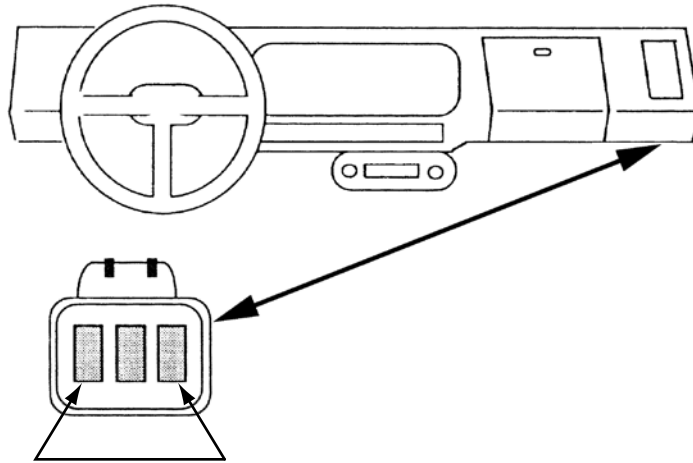
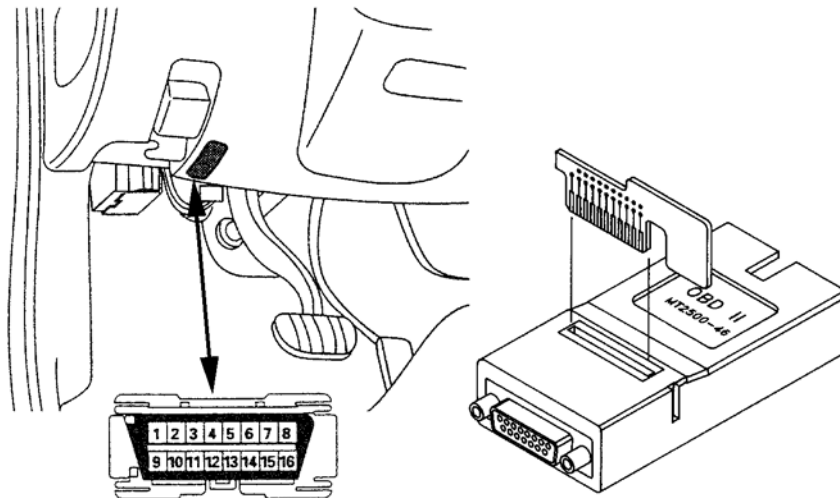
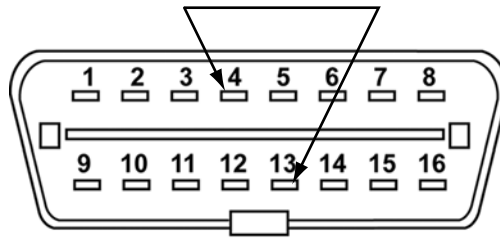

Figure 10-32 Isuzu vehicles with orange SRS diagnostic connector and jumper pins
Figure 10-33 1996 and newer Isuzu vehicles with 16-pin OBDII style connector location
Figure 10-34 1996 and newer Isuzu vehicles with 16-pin OBDII style connector and jumper wire
- Type 03, see Figure 10-32 Figure 10-33, and Figure 10-34 and Table 10-9 on page 115
Start codes by:	With ignition switch on, jumper two terminals in a diagnostic connector together. Only current codes will be flashed. (Figure 10-32, Figure 10-33)